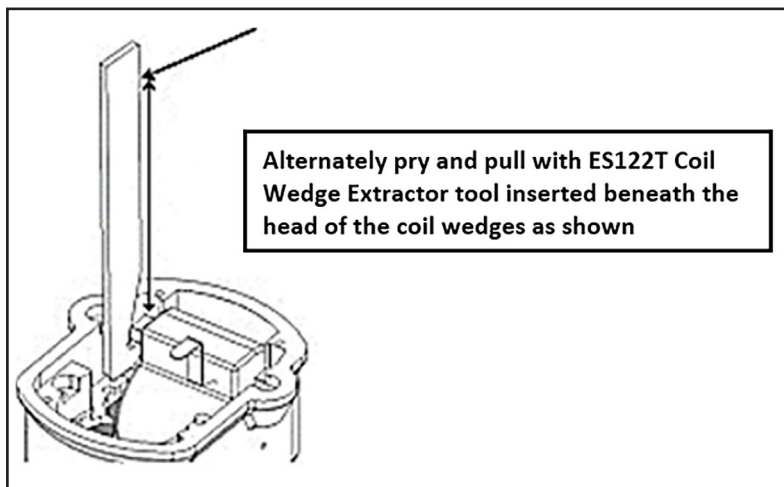

Figure 6.2 – Remove Coil Wedges
- (1) Coil Removal
- (a) Remove coil (17) ground screw.
- (b) Use the ES122T Coil Wedge Extractor to remove coil wedges (19), remove coil from the frame (6). Refer to Figure 6.2.
- (c) Discard coil wedges (19).